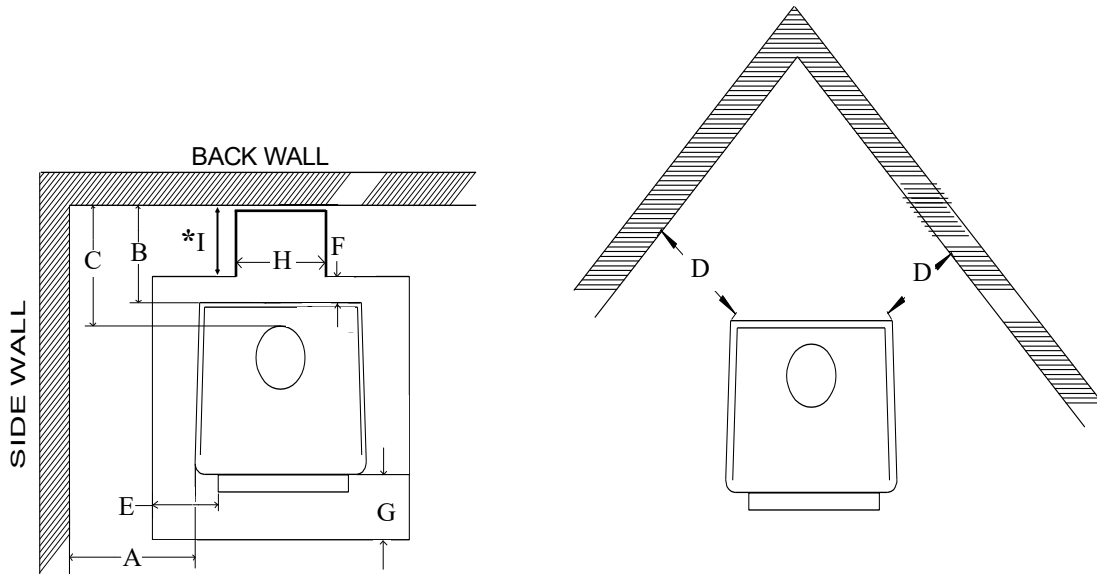

Figure 18
NOTE: Floor protector must be under horizontal pipe exit (See Figure 18, Page 20).
* For wall exit, floor protector must be under horizontal pipe full length of pipe. There must be 2" on each side of pipe. Maintain 18" between pipe and ceiling. (See Figure 18, measurements H & *I).